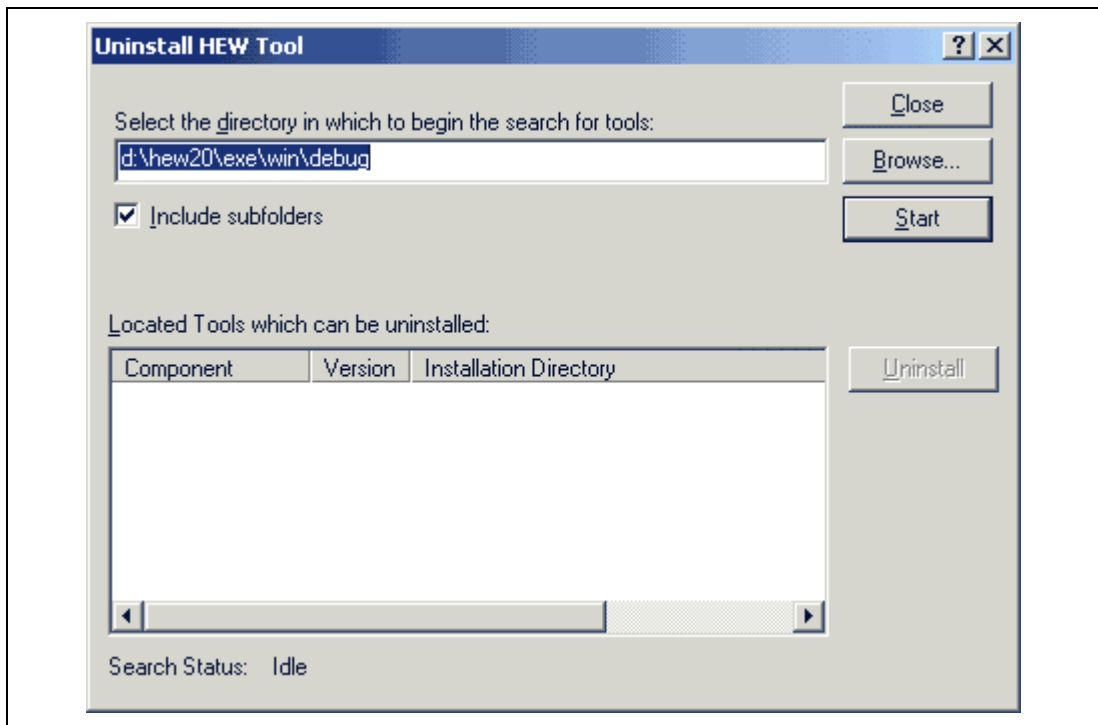

Figure 5.8: Uninstall HEW Tool
2. Click on the uninstaller button. The “Uninstall HEW Tool” dialog is invoked * MERGEFORMAT (figure 5.8).